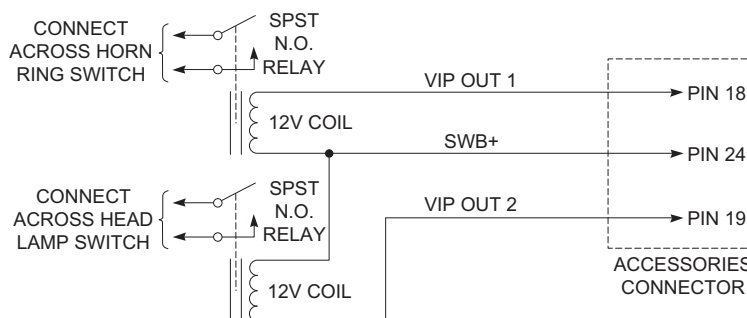

Figure 4-2. Horn/Light Wiring Diagram
**NOTE:** For installations that use the horn/lights option, select a suitable location for mounting (normally under the dash) and, referring to Figure 4-2, perform the following procedure: